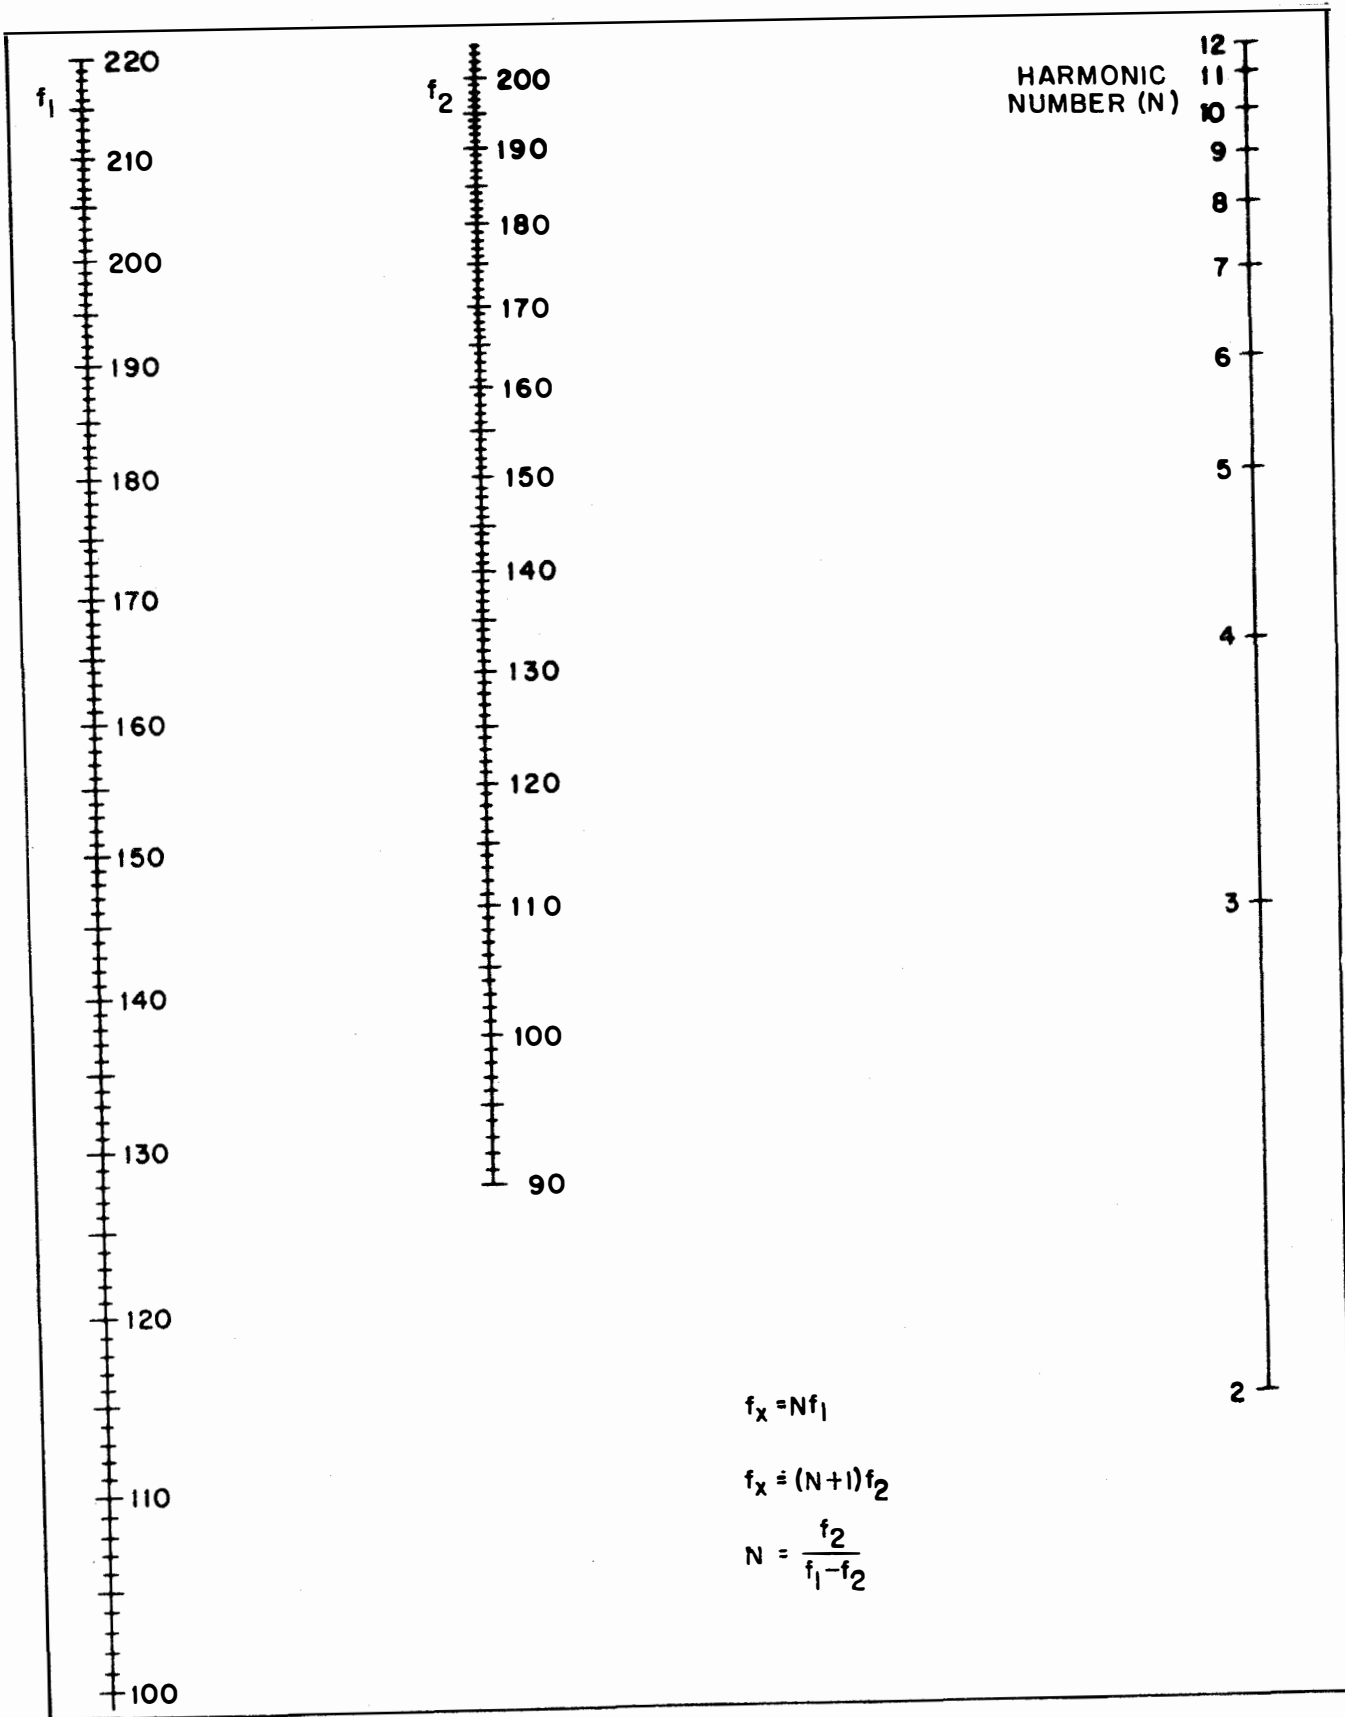

Figure 4-4. Input Signal Frequency Nomograph
i. Figures 4-4 and 4-5 are nomographs with which an input frequency between 400 and 5000 mc can be determined from two adjacent fundamental frequencies which result in zero beat indication. In the nomograph,  $f$  is the unknown frequency,  $f_1$  is the higher of two adjacent frequencies whose harmonics produce zero beat indications, and  $f_2$  is the lower such frequency. To use the nomograph, locate two adjacent fundamental frequencies which zero beat with the unknown input signal. Find the higher of these two frequencies in the left hand column, the lower frequency in the center column. Place a straightedge across these two points. The point where the straightedge intersects the right column is the number of the harmonic which beats with  $f_x$  when the Frequency Comparator is tuned to  $f_1$ . Multiply